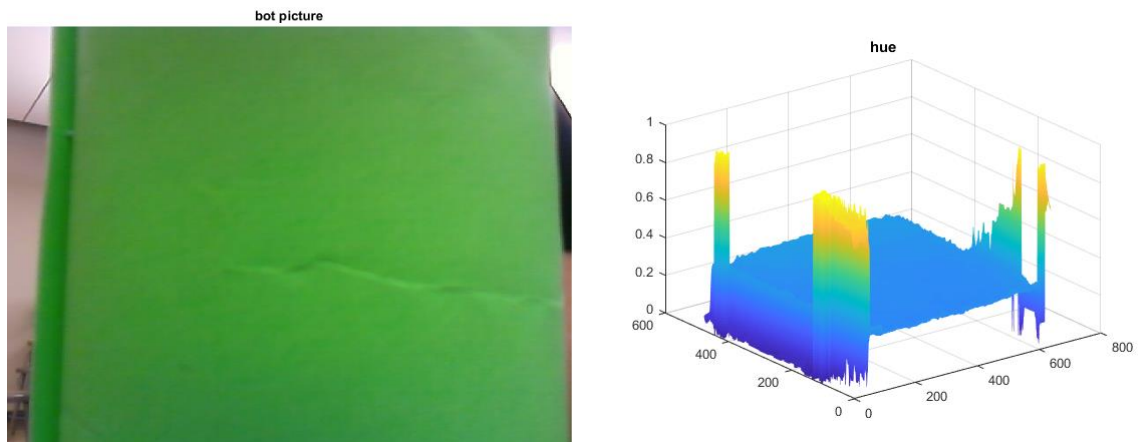

Figure 5.2 – Image from robot, and hue values from hsv.
- b) Extract the Hue from HSV. (Figure 5.2)